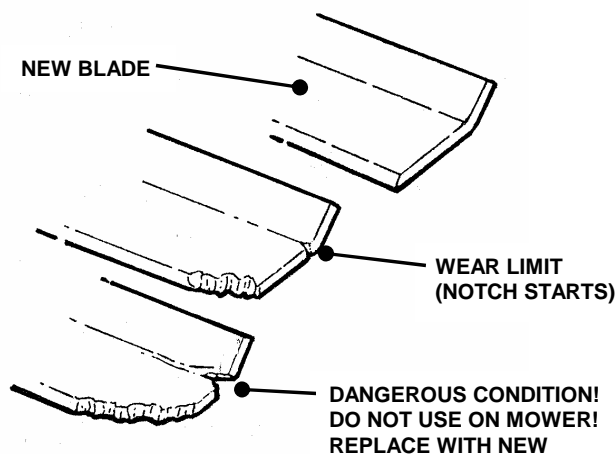

FIGURE 4.1
Blades are subject to wear during normal usage and require frequent inspections. Blades that have reached the wear limit (see Figure 4.1) or have been damaged must be replaced.
4. Inspect condition of blades. See Figure 4.1.